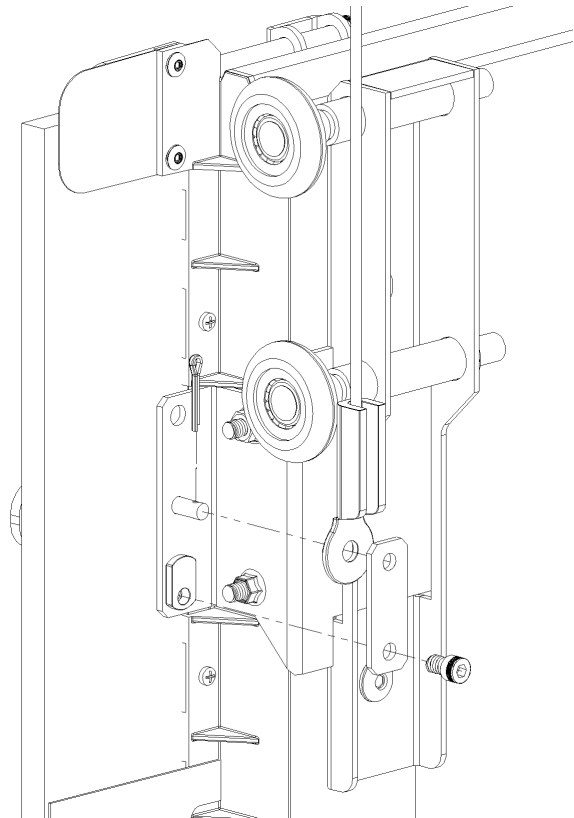

Figure 8
2. Attach cables to Lift Brackets on outside of the designated lift panel. Refer to Installer sheets for Lift panel **(SEE FIGURE 8)**.